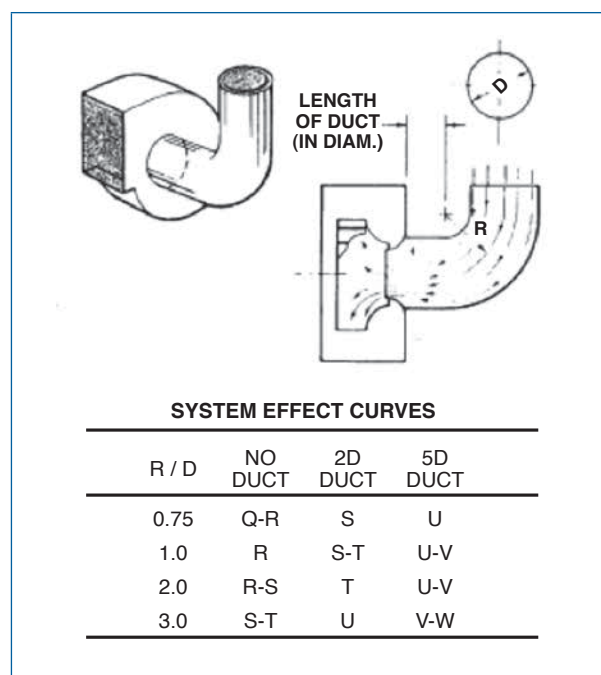

Figure 6-40. Non-Uniform Flow into a Fan Inlet Induced by a 90° Round Section Elbow—No Turning Vanes
Non-uniform flow into the inlet is the most common cause of deficient fan performance. An elbow or a 90° duct turn located at the fan inlet will not allow the air to enter uniformly and will result in turbulent and uneven flow distribution at the fan impeller. Air has weight and a moving airstream has momentum, therefore the airstream resists a change in direction within an elbow or tap fitting as illustrated in Figures 6-40 and 6-41.
The System Effect Curves for round section elbows of given Radius/Diameter (RD) ratios are listed in Figure 6-40. The
System Effect Factor for a particular elbow can be obtained from figure 6-31 using the average fan inlet velocity and the tabulated System Effect Curve. This pressure loss must be added to the friction and dynamic losses already determined for that particular elbow. This System Effect Factor loss only applies when the elbow is located at the fan inlet as shown in Figure 6-40.